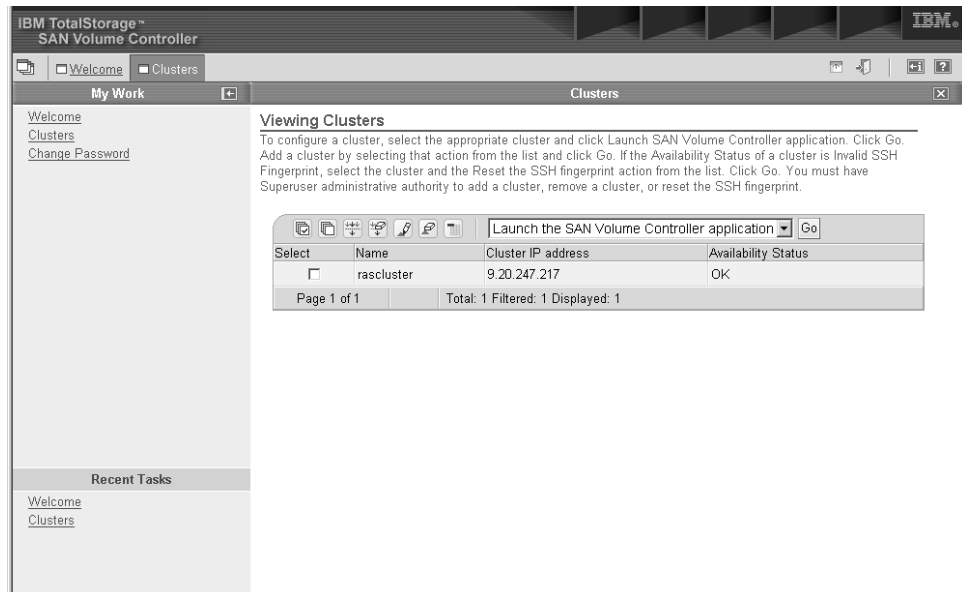

Figure 21. SAN Volume Controller view cluster panel
3. Select **Clusters** from the left navigation menu to access the configuration and service tools that you need, and to see what is displayed in Figure 21.